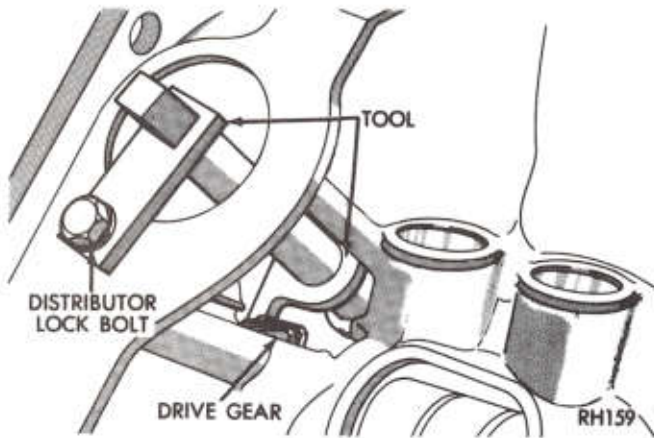

Fig. 31—Camshaft Holding Tool C-3509 in Installed Position
(2) Install Tool C-3509 with tongue back of distributor drive gear (Fig. 31).